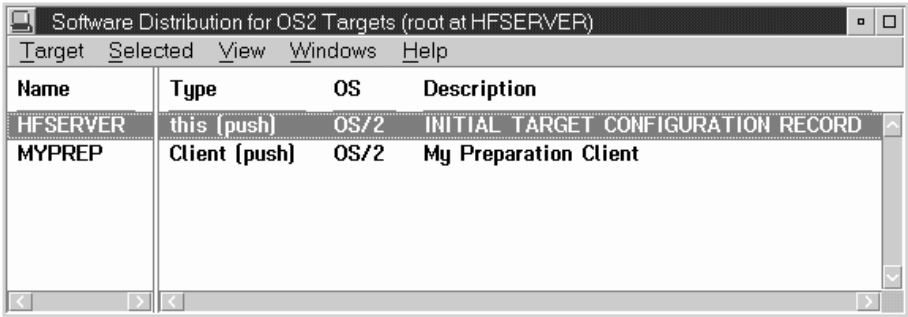

Figure 129. TME 10 Software Distribution for OS/2 targets window
- 4 In the TME 10 Software Distribution for OS/2 Catalog window, select **Targets** from the **Windows** menu bar. The TME 10 Software Distribution for OS/2 Targets window is displayed, as shown in Figure 129.